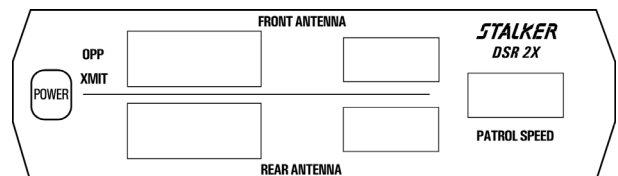

Fig. 20
**FRONT OPPOSITE** - To activate the Front Opposite Target Zone, press the front antenna **OPP** key. The **STALKER DSR 2X** will beep once immediately to acknowledge that the Target Zone is activated. To confirm activation, the front **OPP** and **XMIT** display icons will be illuminated. Fig. 20 illustrates this condition.